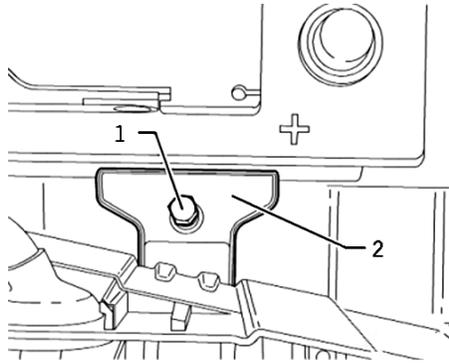

Fig. 8 Bottom rail bracket removal
14. Remove bolt (1) and battery bottom rail bracket (2), Fig. 8.
2. Install bottom rail bracket (2) and **torque** bolt (1) to 89 inch lbs., Fig. 8.